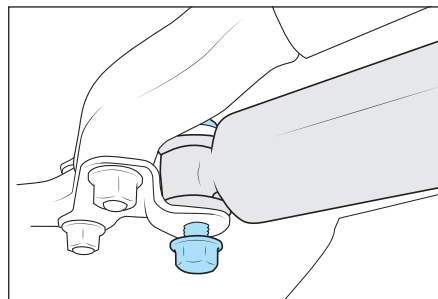

Figure 3
3. Install body side of the AEV steering damper into the tie rod brackets (fig. 3). Install factory carriage bolt (if equipped with short square that doesn't protrude past the bracket) or AEV hex bolt from the top and then loosely install the flange nut from the bottom. **The factory carriage bolt must use the factory nut, the AEV bolt must use the AEV nut. They have a different thread pitch that is not interchangeable.**